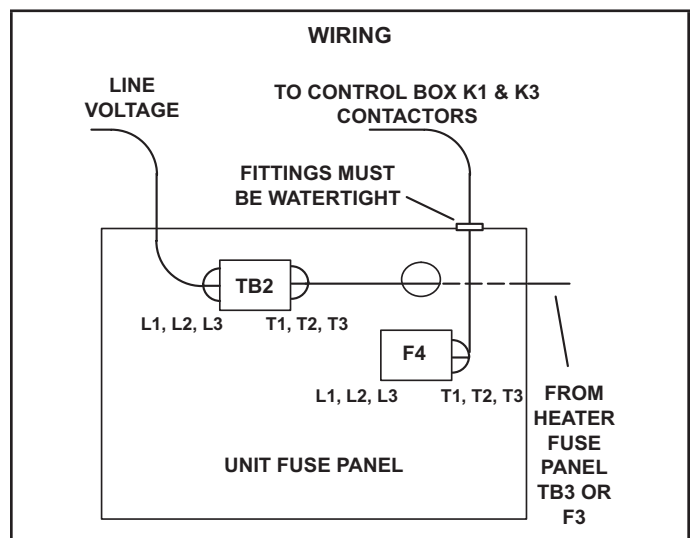

FIGURE 3
- 9 - Make wire connections as shown in figure 3. Also refer to wiring diagram on unit and instruction provided with electric heat assembly.